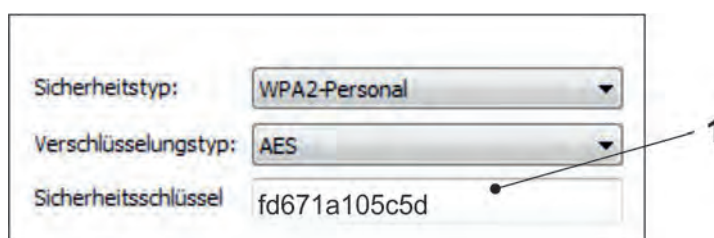

Fig. 31-22 Enter security key and connect
4. Enter security key (password) (delivery status = PUK; here fd671a105c5d as example) (Fig. 31-22 Pos. 1) and connect.